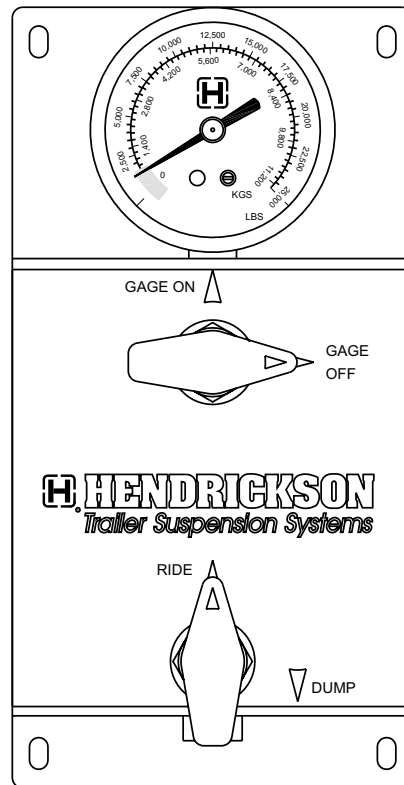

Figure 2. Gage valve to GAGE OFF position
8. Return the upper ball valve clockwise to the GAGE OFF position (Figure 2).
1. Rotate the lower ball valve counterclockwise to the RIDE position and allow the air system to fully charge (Figure 2).